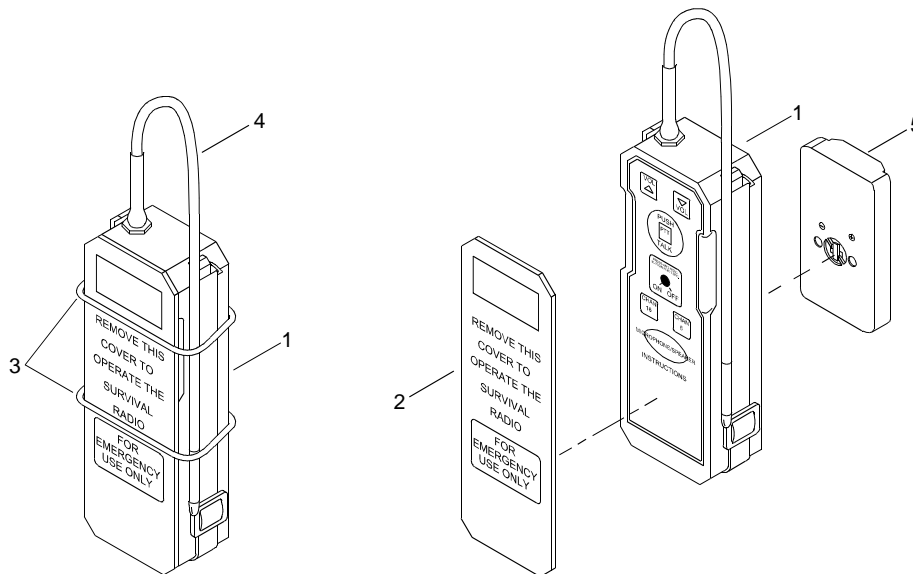

Figure 1. Lifeboat Radio (LBR)
1. Carry the LBR (figure 1, item 1) onto the survival craft.
2. Remove the control panel protective cover (figure 1, item 2).
- a. Slide o-rings (figure 1, item 3) down past end of antenna (figure 1, item 4) and lifeboat radio battery (figure 1, item 5).
- b. Remove the control panel protective cover (figure 1, item 2).